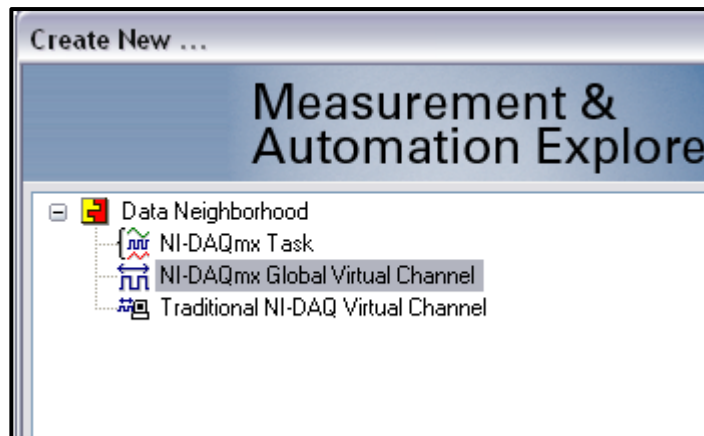

Figure 68. Create Global Virtual Channel.
3. Right click on the device, choose Data Neighbourhood and select Create New. Choose Global Virtual Channel [Figure 68].